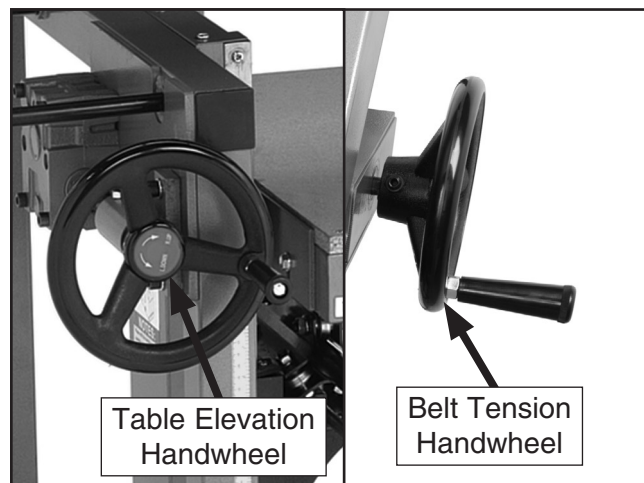

Figure 29. Handwheel Attachment.
19. Slide the larger handwheel on the elevation control shaft and the smaller handwheel on the belt tension shaft, then secure each by tightening the set screws and lock nuts (**Figure 29**).